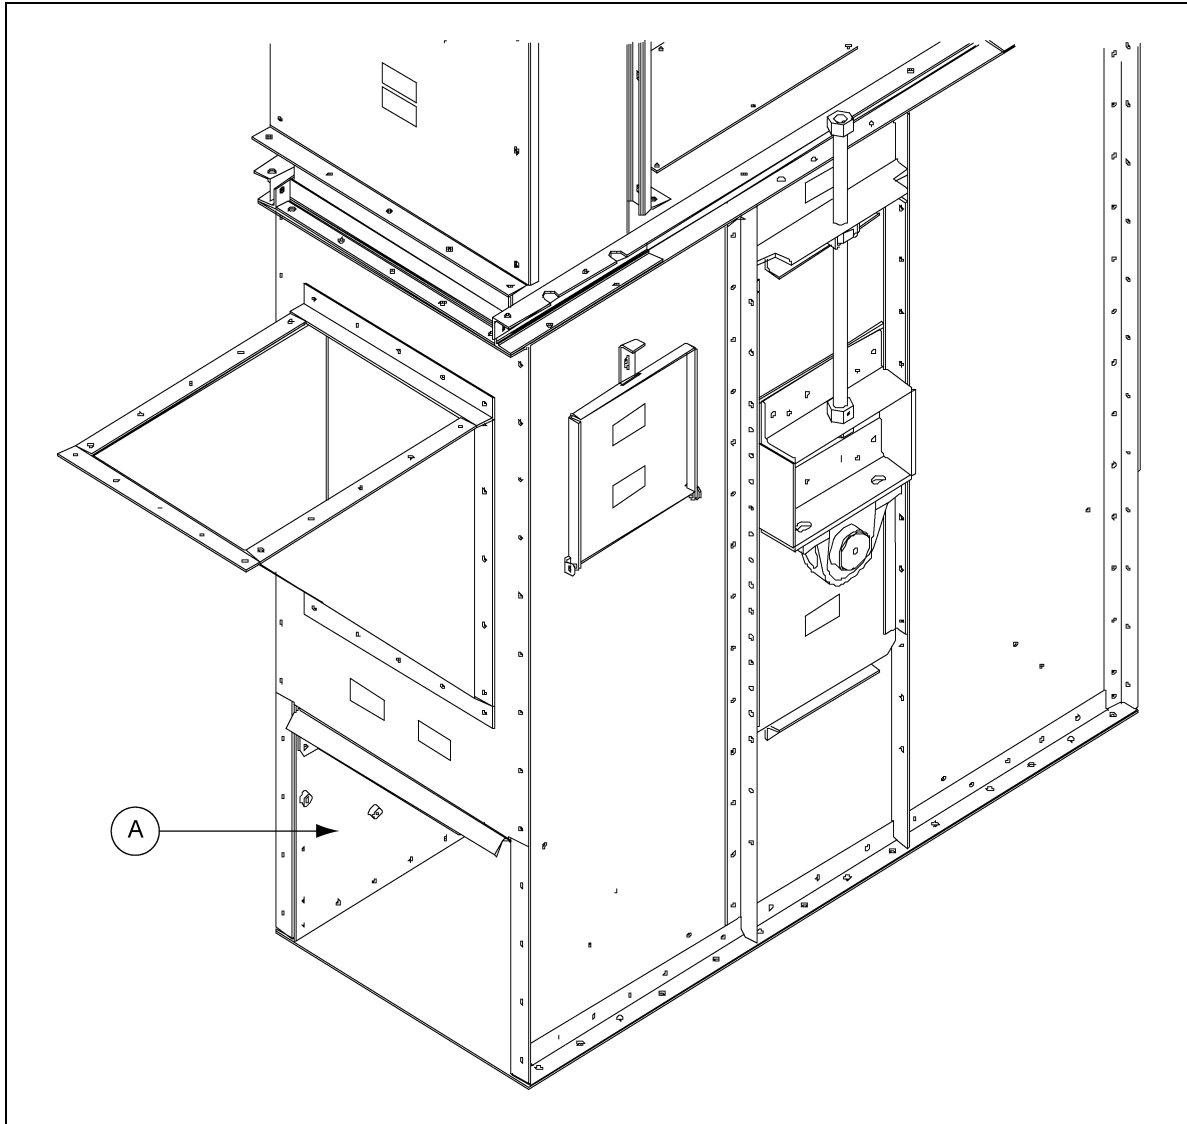

Figure 12C
5. At the boot of the elevator, un-bolt and open the clean-out doors. (See Figure 12C.)